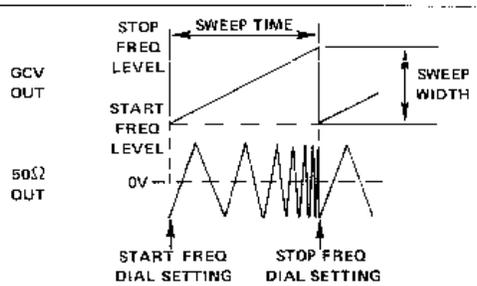

Figure 3-2. Effect of Sweep Time and Width on Output Frequency
③ **STOP FREQ Dial**
This dial is used in sweep mode only. Frequency settings of the STOP FREQ dial multiplied by frequency range ⑩ determine the frequency at which sweep is stopped. (See figure 3-2.) Setting this dial for values greater than the START FREQ dial ② settings define upward sweeping frequencies, and setting it for lower values than start frequency settings define downward sweeps.
④ **SWEEP MODE Selector**
Frequency of the internal sweep ramp, and thus, the sweep repetition rate, is governed by the SWEEP TIME control (see figure 3-2). The large knob, when rotated to a detent line, determines the range controlled by the VARIABLE knob. The range values are shown on either side of the detent line. In OFF position, the ramp generator is turned off.
The internal sweep generator ramp is available at the SWP OUT connector. Ramp frequency is varied by the SWEEP TIME control. (See figure 3-2.) Output is a 0 to +5V ramp, 600Ω source impedance.